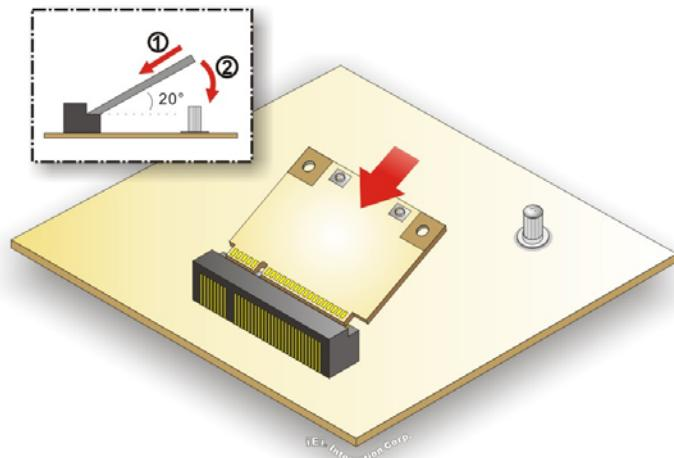

Figure 3-19: Inserting the WLAN Module
Step 5: Insert into the socket at an angle. Line up the notch on the WLAN module with the notch on the slot. Slide the WLAN module into the slot at an angle of about 20° (**Figure 3-19**).